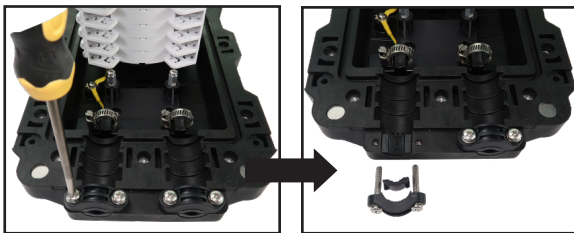

Figure 1-3: Remove cable clamp
- 2 Remove the cable clamp from the cable entry (Figure 1-3).